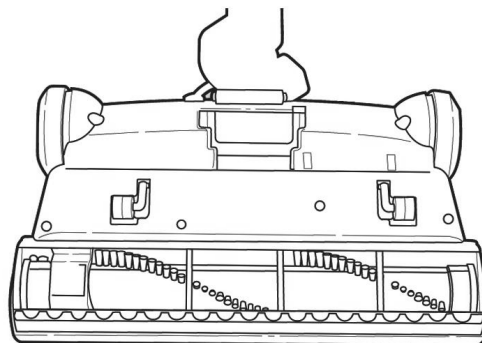

Figure 7
7. Replace the brush cover by inserting the tabs on the front of the cover into the appropriate slots in the Powerbrush base (as shown in Figure 7) and press down on the front clips until they snap-lock into place. Then replace the 4 screws.